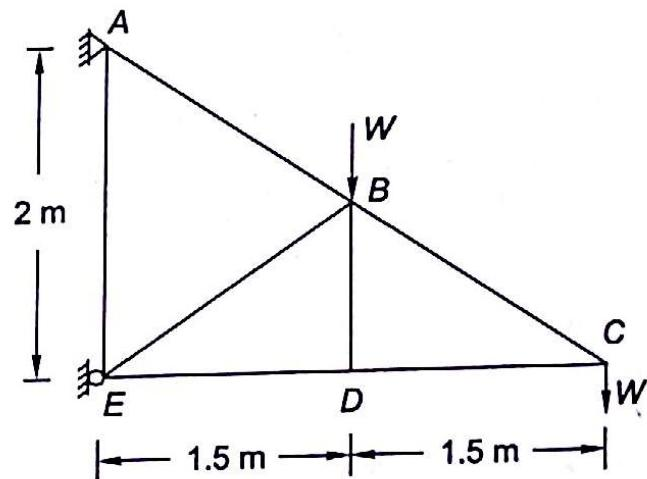

Fig. 4.34
- 4.5 A truss ABCDE carries vertical load W each at joint B and C . What is the magnitude of force in member BD (Fig. 4.34)?